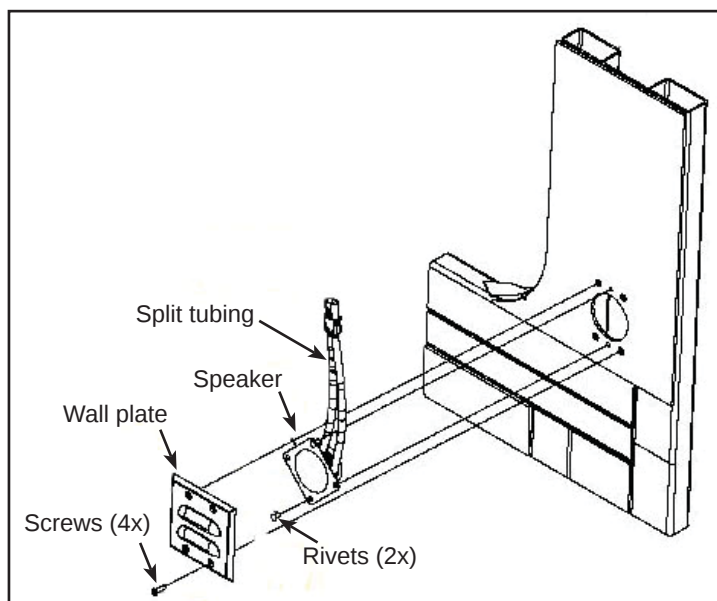

Figure 2 - Speaker Assembly
- 1.2. Remove the speaker wall plate screws (4x). Discard the wall plate. Retain the screws. See Figure 2.
- 1.5. Remove the split tubing around the speaker cable. See Figure 2. Retain the tubing.